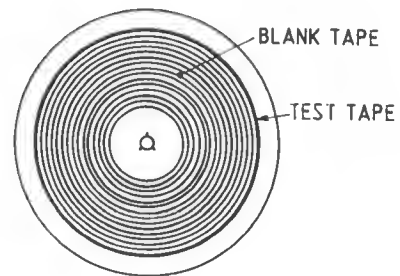

Fig. 7-2 Test Tape Loading
A flutter test tape is used for measuring tape speed. Since tape tension affects tape speed, it is important for accurate measurement that the flutter test tape used is attached to the end of a full reel of blank tape as shown in Fig. 7-2, and is used with the REEL push-button set to the appropriate reel size. Proceed as follows:
- (1) Place the PITCH CONTROL in the fixed position and set all RECORD switches to their off "out" positions.
- (2) Connect a flutter meter to LINE OUT and set the MONITOR switch to the TAPE position.
- (3) Set the SPEED switch to "HIGH" and use the test tape at its appropriate speed.
- (4) Attach the test tape to a 10-1/2 inch NAB reel as shown in Fig. 7-2, place the test tape on the supply reel table, thread the tape, and set the REEL switch to the LARGE position.
- (5) Place the recorder in the play mode and note the reading on the frequency counter. The reading should be between 2994 and 3006 Hz (3000 Hz  $\pm$  0.2 %).
- (6) Repeat the procedure at a point towards the end of the reel, for a 7 inch EIA reel, and for low tape speeds.
It is important that the flutter test tape used is attached to the end of a full reel of blank tape as shown in Fig. 7-2, and is used with the REEL push-button set to the appropriate reel size.
- (1) Place the PITCH CONTROL to the fixed position and set all RECORD switches to the off "out" position.
- (2) Connect a flutter meter to the LINE OUT of the inner track channel and its MONITOR switch should be in the TAPE position.
- (3) Set the selector switch of the flutter meter to the NAB weighted position, set the SPEED switch to H1, and use the test tape at an appropriate speed.
- (4) Attach the test tape to a 10-1/2 inch NAB reel as shown in Fig. 7-2, place the test tape on the supply reel table, thread the tape, and set the REEL switch to the H position.
- (5) Place the recorder in the play mode and note the reading on the flutter meter. The reading should be as shown in Table 7-3.
- (6) Repeat the procedure at a point towards the end of the reel, a 7 inch EIA reel, and at low tape speeds.